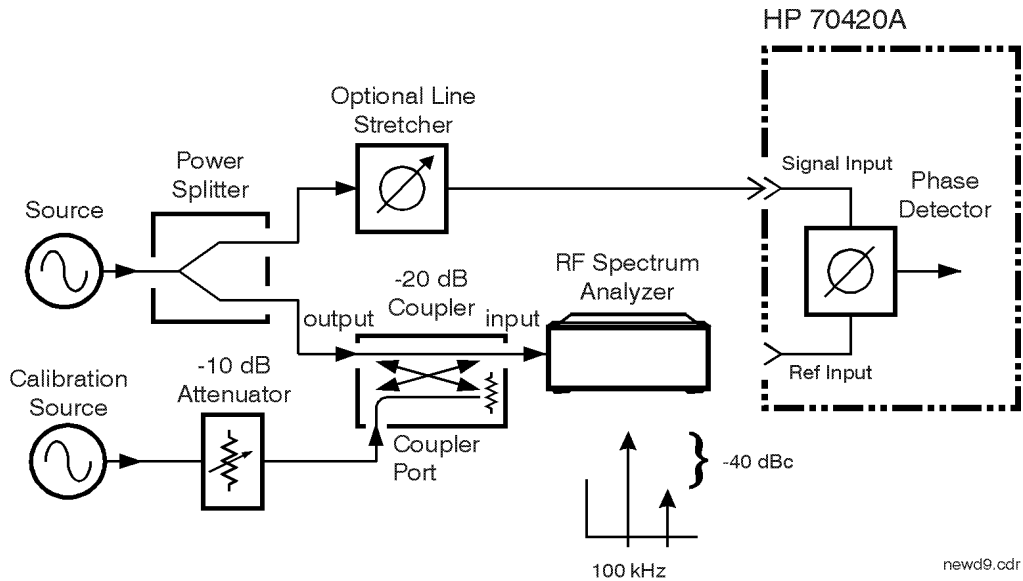

Figure 8-16 Calibration Setup
- 1 Connect circuit as per Figure 8-16, and tighten all connections. Note that the input signal into the directional coupler is being supplied to the coupler’s output port.